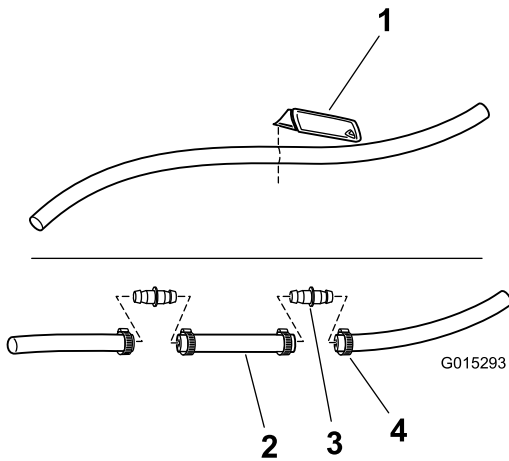

Figure 10
- Cut the boom supply hose 24 inches from the end of the fitting (Figure 10).
- Install the hose splice using 2 straight adapters and 4 hose clamps (Figure 10).